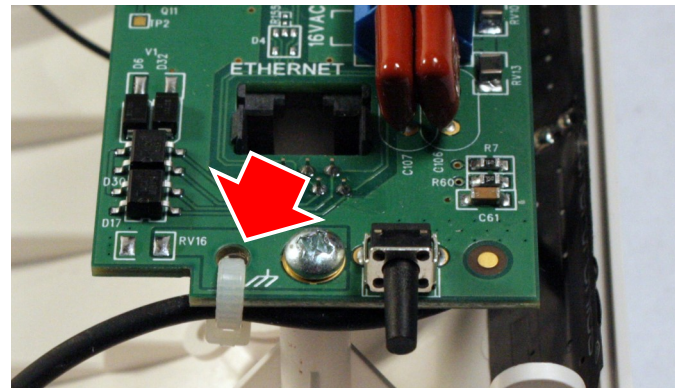

Fig. 8: For strain relief, secure antenna cable to the PCB with zip tie
11. For strain relief, secure the cable to the PCB by inserting the zip tie into the PCB hole shown in Fig. 8.